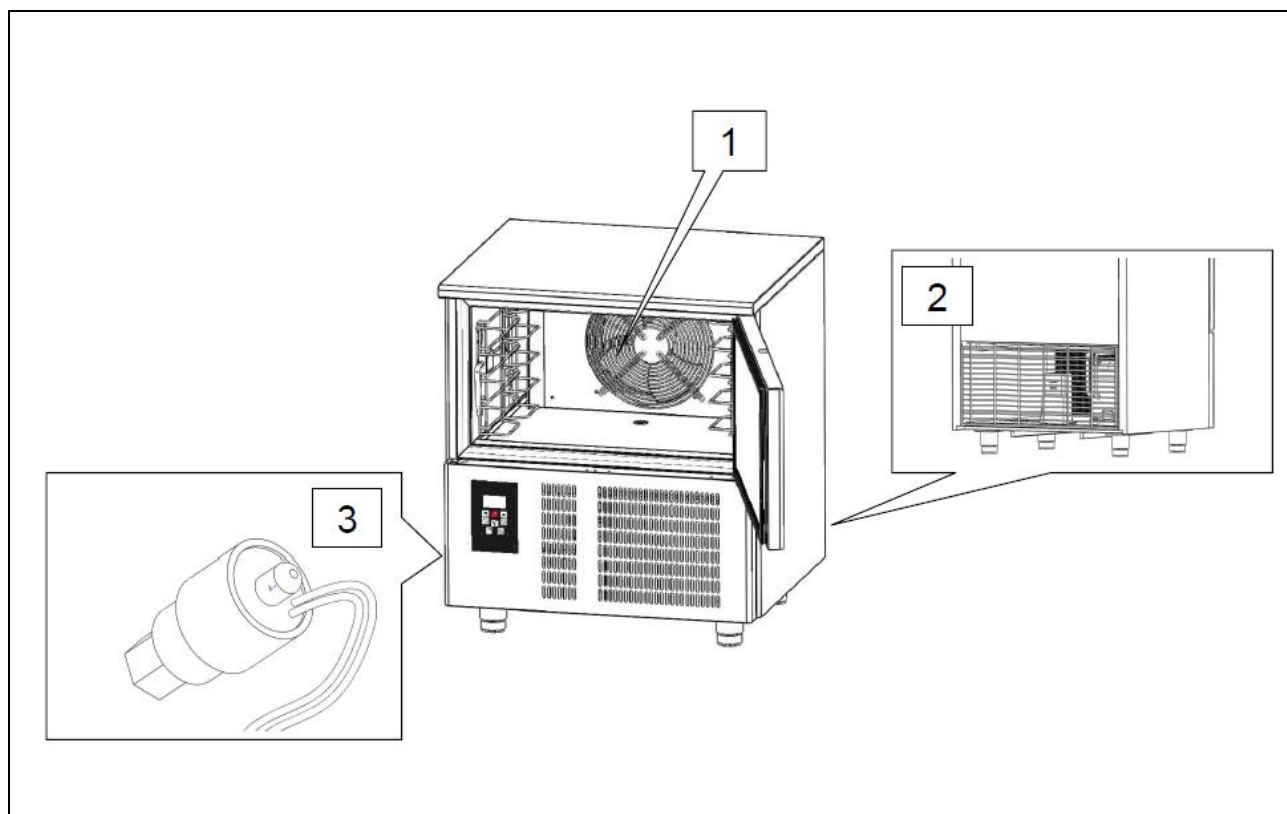

Fig. 5
- grilles covering the cooling fans (ref. 1 fig. 5);
- grilles covering the condenser unit (ref. 2 fig. 5).
- Sensor (ref. 3 fig. 5), located on the cooling circuit, signals any overheating of the equipment and puts the appliance in standby mode.